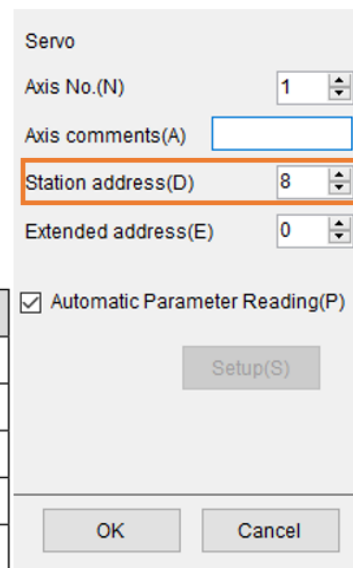

Figure 1.3.4
3. Open the cover of drive panel and observe SW1 and SW2. The arrow direction of knob indicates the station address of the drive, SW1 refers to tens digit, and SW2 refers to units digit. However, some station addresses are not supported by the drive, as shown in the table in Figure 1.3.4. If SW1=0, the value of SW2 cannot be a number from 0 to 2; if SW1=F, the value of SW2 cannot be a number from 0 to F. If the station address of the drive is the above number, please turn the knobs of SW1 and SW2 to avoid the above range and restart the power. Finally, enter the station address of the drive to **Station address** shown in Figure 1.3.4.